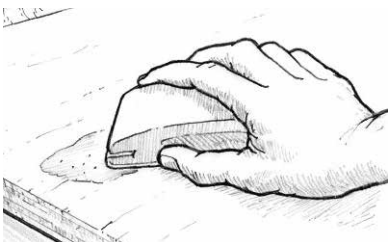

Figure 23 Sand cured fairing compound to desired contour.
6. Sand the fairing material to blend with the surrounding contour (Figure 23). Begin with 50-grit sandpaper if you have a lot of fairing material to remove. Use 80-grit paper on the appropriate sanding block when you are close to the final contour. **CAUTION!** Don't forget your dust mask. Remove the sanding dust and fill any remaining voids following the same procedure.